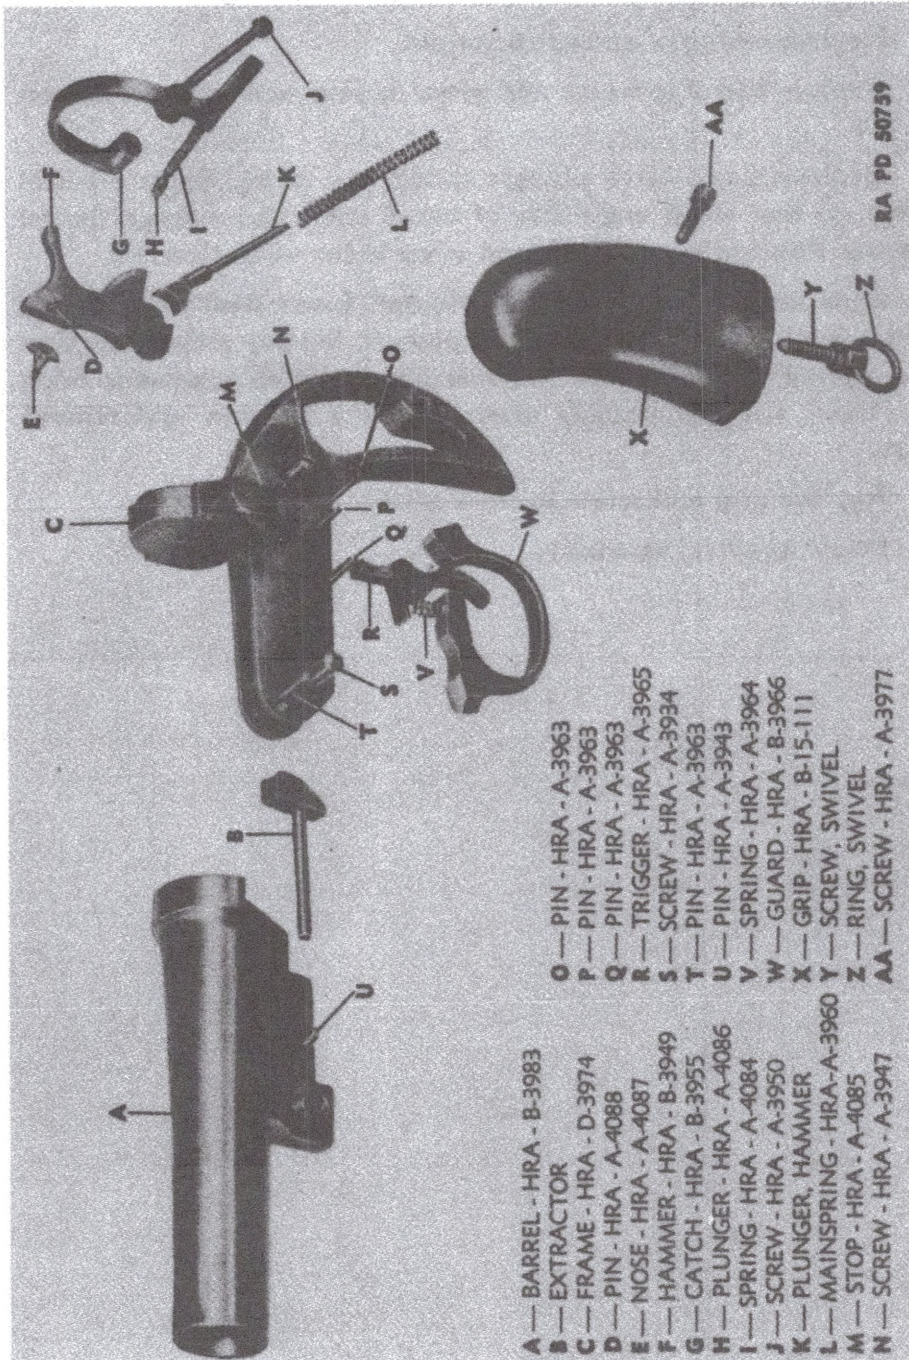

Figure 28 — Pistol, Very, M5 — Parts
- (1) Insert trigger spring and trigger and replace trigger screw.
- (2) Replace hammer and hammer screw.
- (3) Insert mainspring in frame.
- (4) Replace right-hand and left-hand stock assemblies and stock screw.
- (5) Replace firing pin, spring, and recoil plate.
- (6) Replace barrel latch, spring, and thumbpiece.
- (7) Replace ejector and ejector stop screw.
- (8) Replace barrel in frame and insert barrel hinge screw. Close the breech.
13. VERY PISTOL M5 (fig. 28).